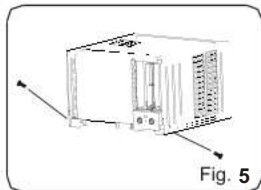

Fig. 5
- Remove the screws fix on the chassis-fixing board and cabinet. Some Models have two more screws on the back of the cabinet. (see Fig.5)
- Fix the chassis and cabinet. (see Fig.5)